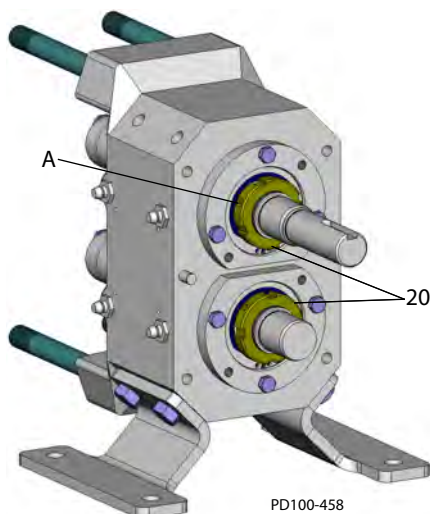

Figure 51 - Tighten Setscrews
4. Tighten or loosen the bearing lock nut (Figure 51, item 20) to achieve a torque value as shown in Table 6.
5. Tighten the locking setscrew(s) (Figure 51, item A) in the bearing lock nuts (item 20).